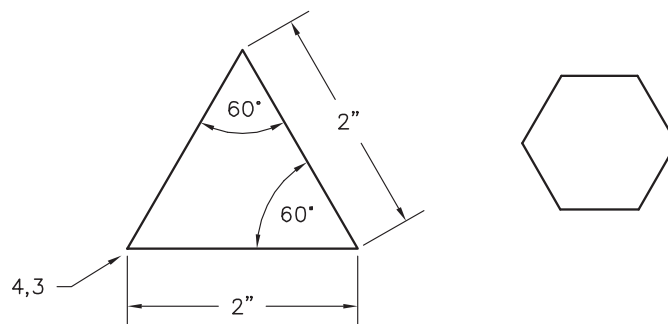

Fig. 16-13
2. Create the triangle shown in Fig. 16-13. Then use **CHAMFER** to change it into a hexagon. Set the chamfer distance at **.66** units.